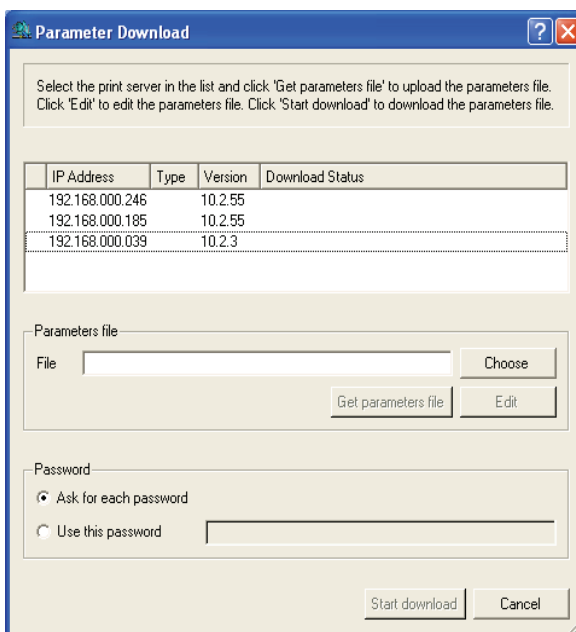

Fig. 22: PRINTSERVER-NetTool - Parameter Download
3. *Select Actions – Download – Parameters File from the menu bar. The Parameter Download dialog appears; see Fig. 22 ⇨  149.*
3. *Select Actions – Download – Parameters File from the menu bar. The Parameter Download dialog appears; see Fig. 22 ➡ 149.*
The Parameter Download dialog appears; see Fig. 22 ⇒ 149.